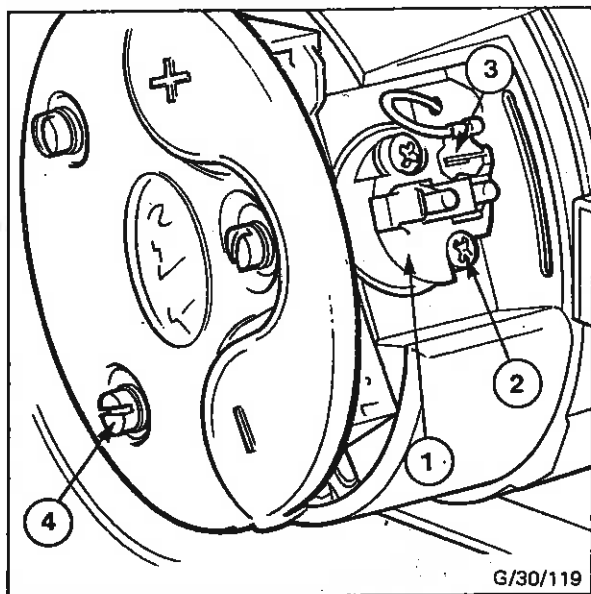

Fig. 80 - Replacing Brush Box and Baffle
10. Fit a new gasket (supplied in seal and gasket set) to the brush box moulding and assemble brush gear (1) to the slip-ring end shield. Correct positioning is ensured by the locating dowel. Secure with retaining screws (2) and plain and spring washers. Reconnect 'A' lead (3) to terminal post marked 'A', secure with crinkle washer, plain washer and terminal nut - see Fig. 80.